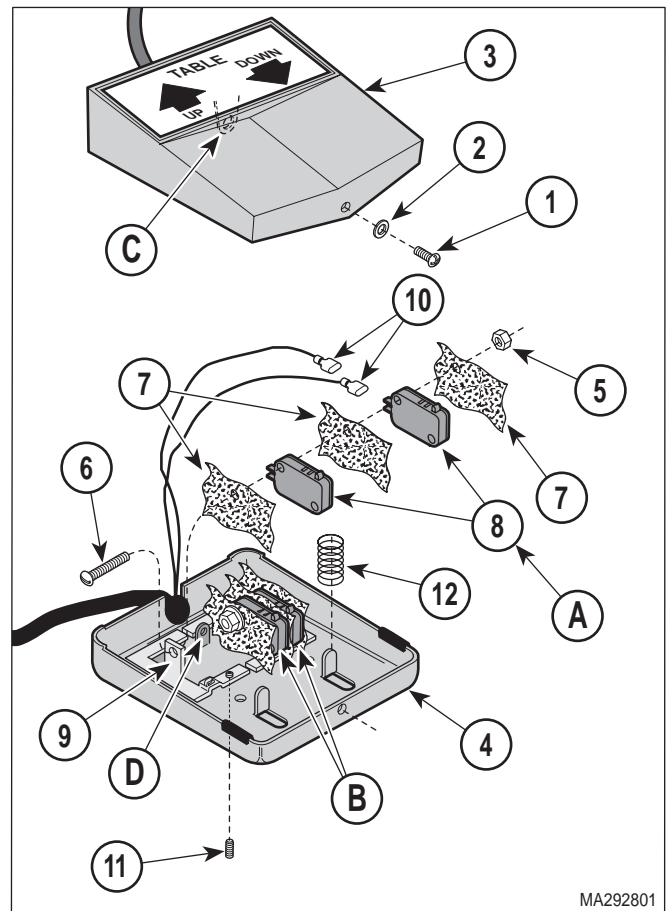

Figure 4-22. TABLE UP or TABLE DOWN Switches Removal / Installation / Adjustment
- (2) Remove screw (1, Figure 4-22), lockwasher (2), and foot pedal (3) from foot control housing (4).